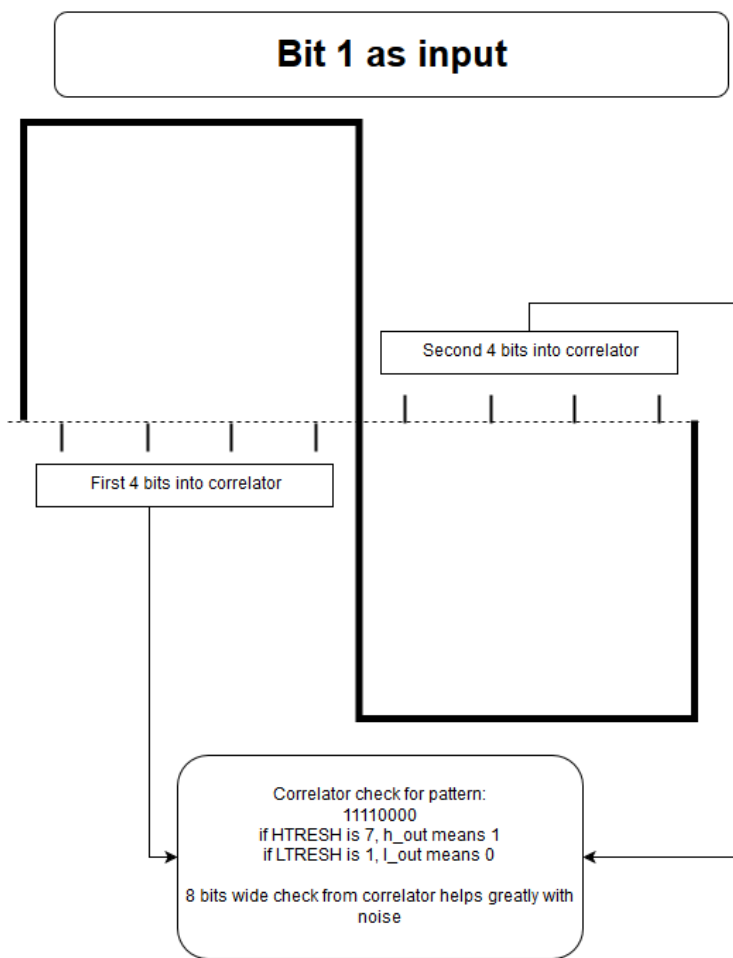

Figure 1
- We will have 8 bit checks of each bit with the correlator (Figure 1)